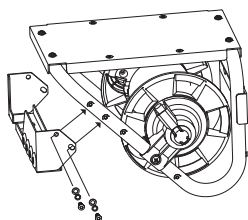
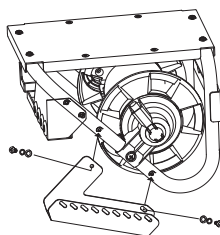
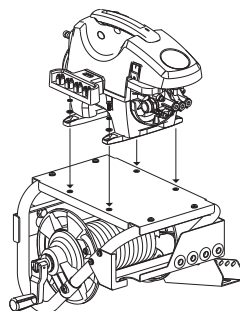

Fig.4
Fig.5
Fig.6
2. Install the gun bracket and operation panel on the frame as shown in the figure, securing them with screws (Fig.4) (Fig.5). Finally, mount the cleaning machine (with its base installed) onto the frame (Fig.6).